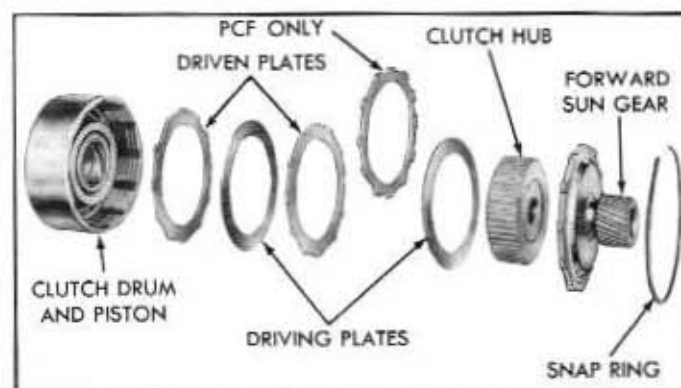

Fig. 7A-22—High Clutch Plate Pack—(61CM-4404)
1. Remove the snap ring that retains the forward sun gear and flange in the clutch drum. Refer to figure 7A-22. Lift the gear and flange out of the drum.